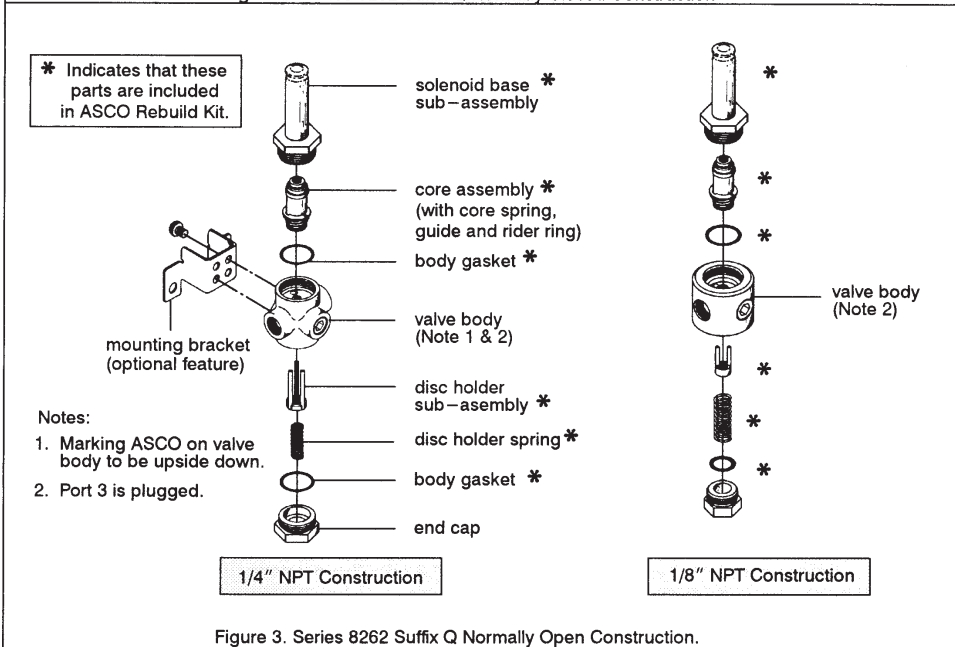

Figure 3. Series 8262 Suffix Q Normally Open Construction.
- **Normally Open Construction** (Refer to Figure 3)